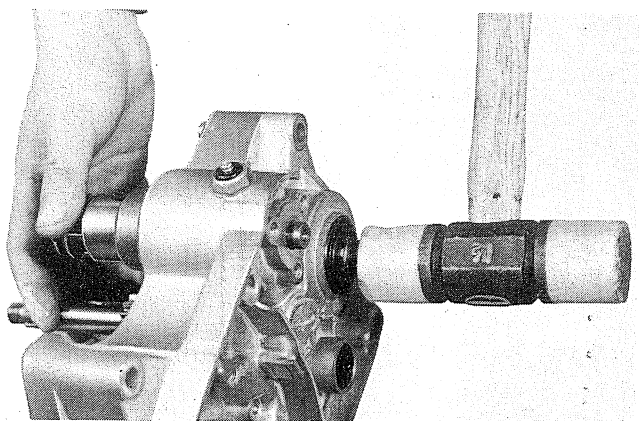

Fig. 3-15-5
- 2) Remove the transmission and the shifter at the same time. (Fig. 3-15-5)